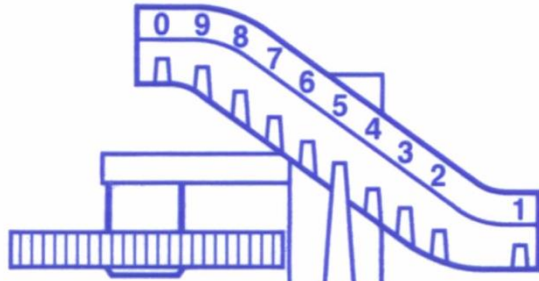

FIGURE 1
- 1) Set price wheels by positioning and fully engaging range arms (see Figure 1).